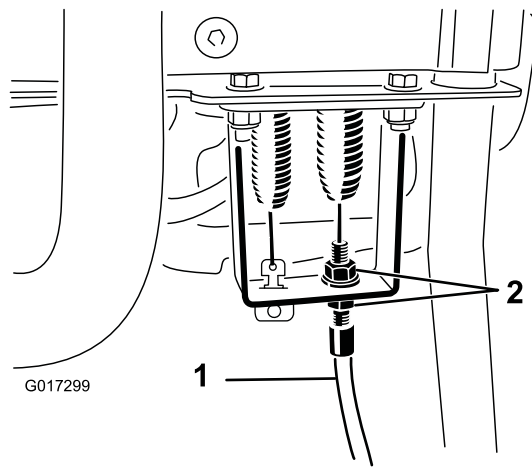

Figure 50
4. At the control handle bulkhead, loosen the reel control cable until there is slack in the cable (Figure 50).